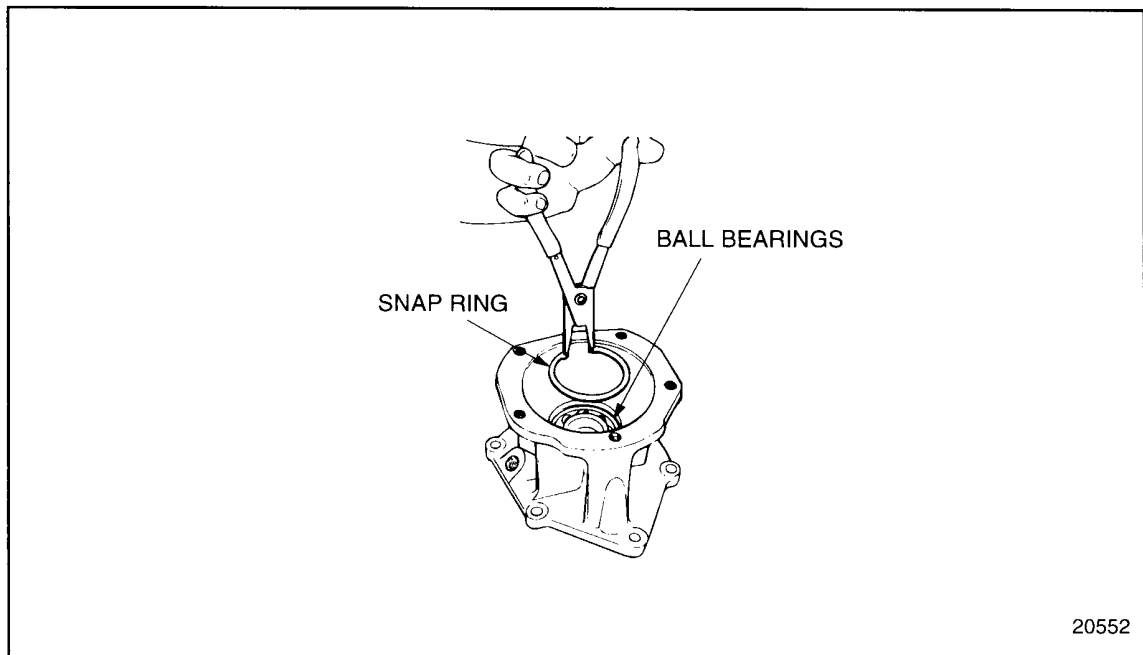

Figure 10-15 Roller Bearing Snap Ring Removal
11. Remove the large snap ring retaining the ball bearing in the air compressor drive hub housing using snap ring pliers. See Figure 10-15.